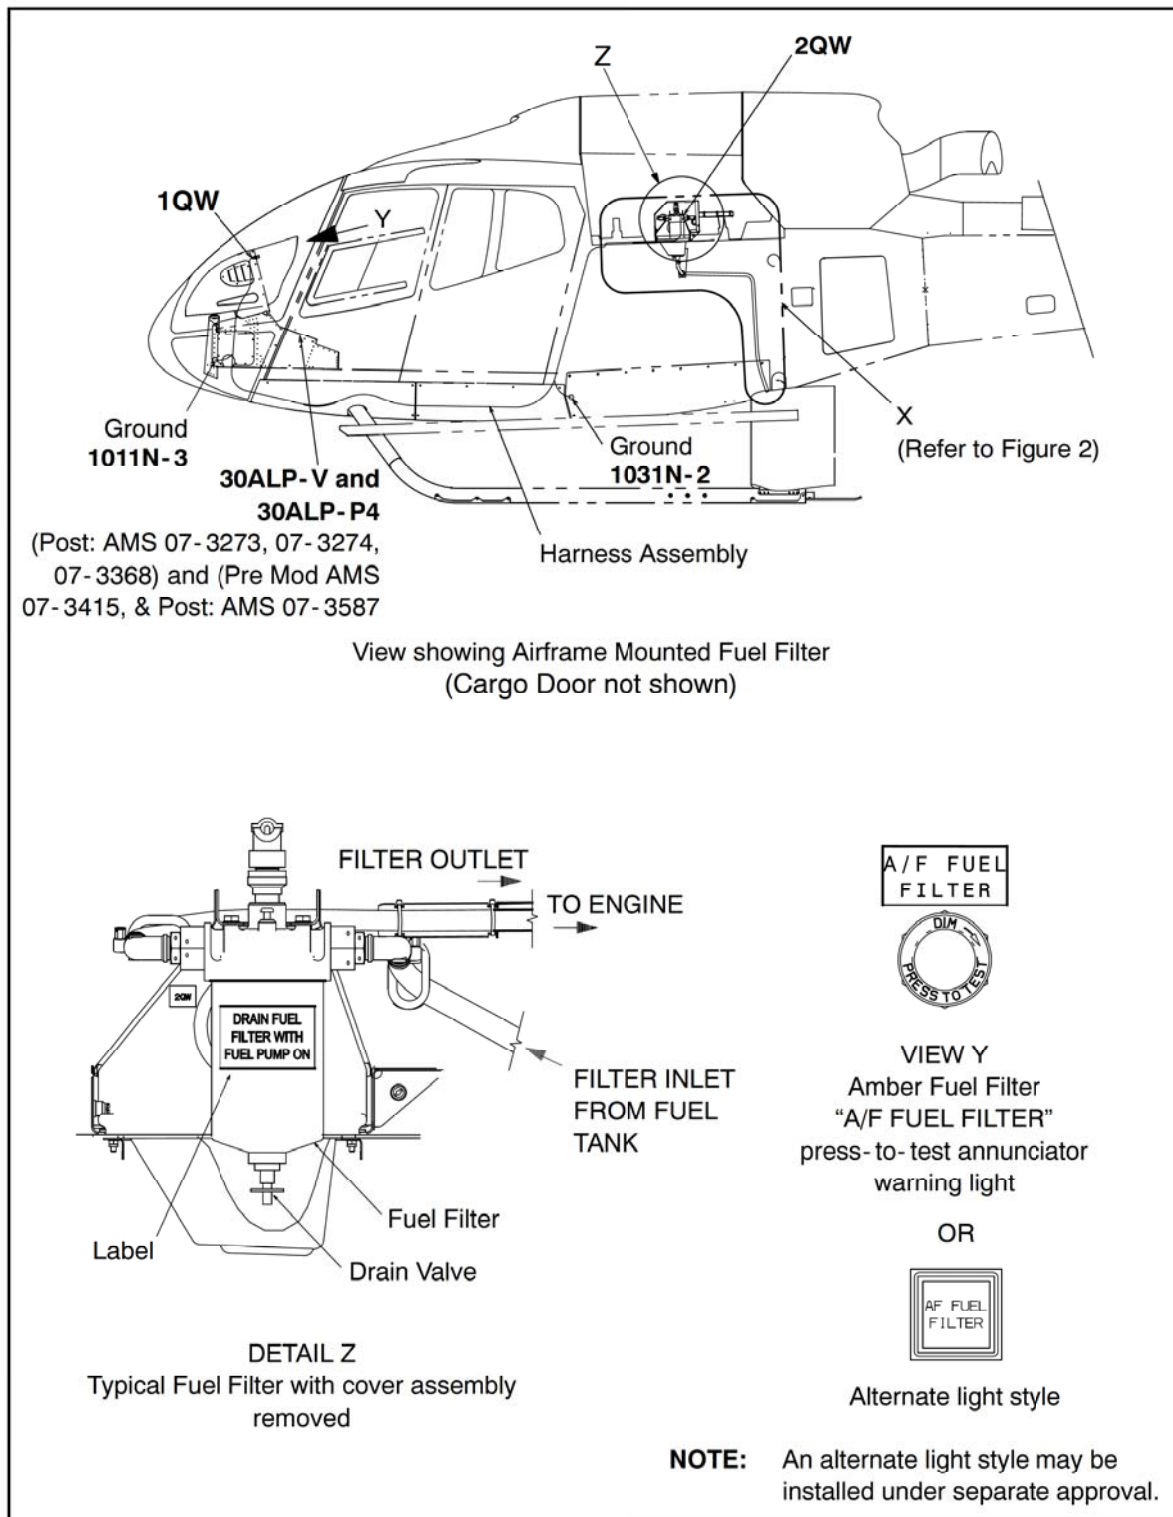

Figure 1 General Layout
- A. The Airframe Fuel Filter enables operation of the helicopter at low temperatures without the use of anti-ice additives in the fuel. The filter is designed to collect ice particles. The filter contains a bypass valve and a bypass delta pressure switch. Refer to Figure 1, General Layout.
An "A/F FUEL FILT" annunciator warning light located on the Instrument Panel will illuminate during flight indicating an impending bypass of the airframe fuel filter. Refer to Figure 1, VIEW Y.